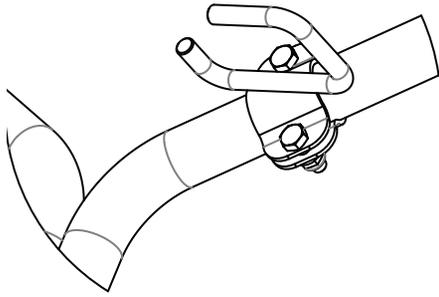

FIGURE 1
1. Attach gun bracket to upper FSC handle in approximate location shown in **FIGURE 1**. Use clamp; (2) bolts, washers and nuts to secure.